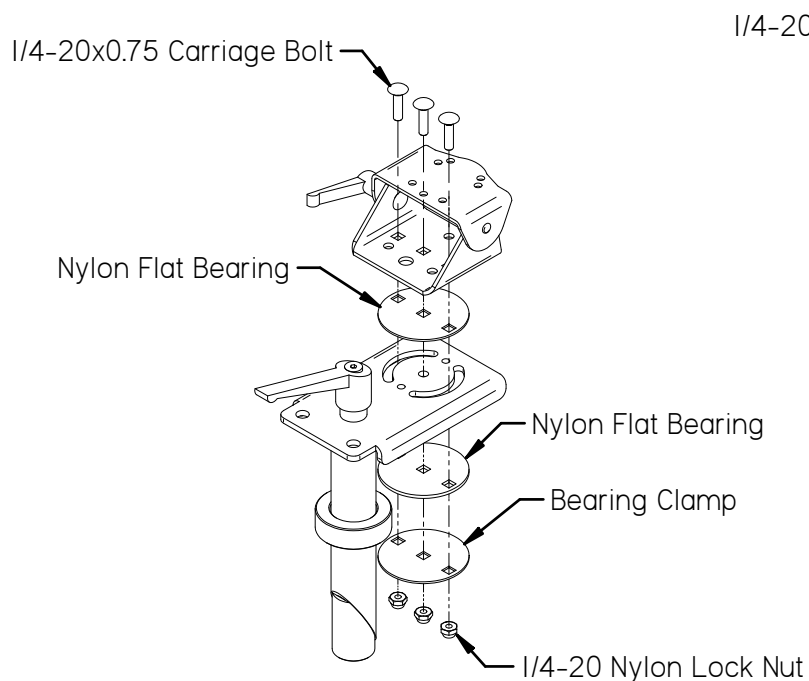

Figure 1 DS-Upper Install
1. Assemble the small clevis with the supplied (2) nylon flat bearings and (1) bearing clamp to the DS-Upper plate with the supplied (3) 1/4-20x0.75 carriage bolts and (3) 1/4-20 nylon lock nuts as shown in Figure 1.